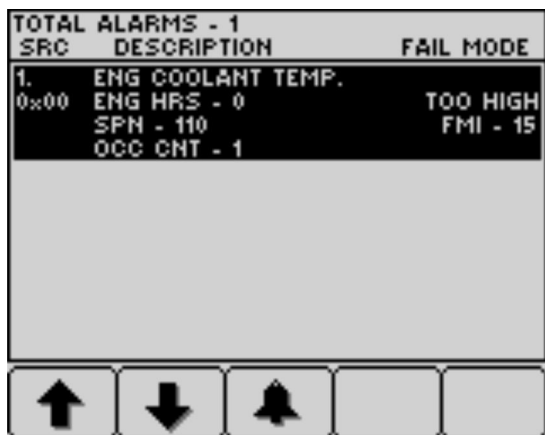

Figure 44
3. Press button 1 through 5 to view the active fault list (Figure 44).
4. Press button 1 through 5 to view the active fault list ; refer to Figure 44 in Engine Advisories Messages \(page 40\).